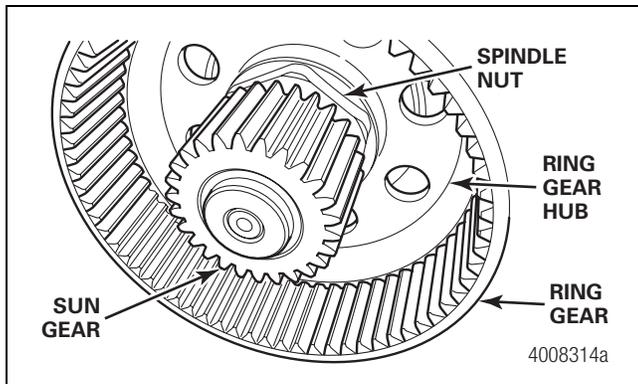

Figure 3.7
2. Remove the sun gear and thrust washer from the axle shaft. Figure 3.7.